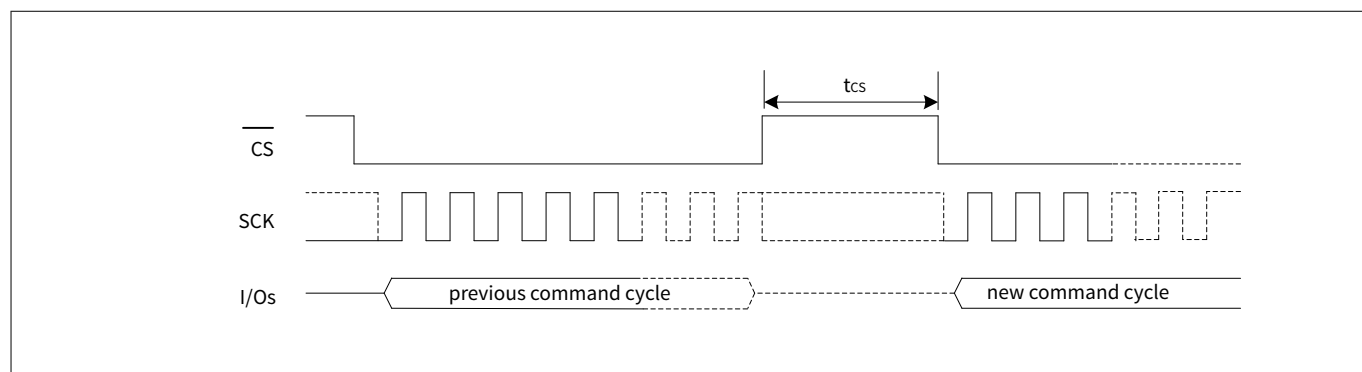

Figure 118 Chip deselect ($\overline{CS}$ HIGH) - t_{cs} timing
4) t_{CS} is the minimum chip deselect ($\overline{CS}$ HIGH) time before the new command cycle starts in a specific SPI mode (SPI, DPI or QPI). This parameter ensures that previous operation is successfully completed before the host starts a new command cycle. Refer to Figure 118